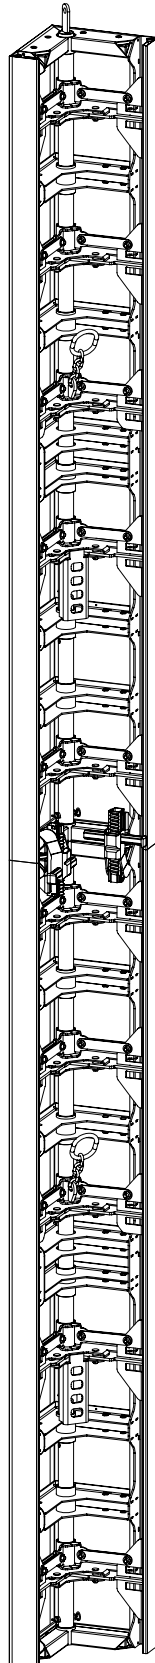

Fig. A17.11
2. Position shaft corners on top of each other. (Fig. A17.11 + A17.11b) Thereby, push the tension strap of the bottom panel into the tube of the top panel.
(Fig. A17.11 + A17.11c)